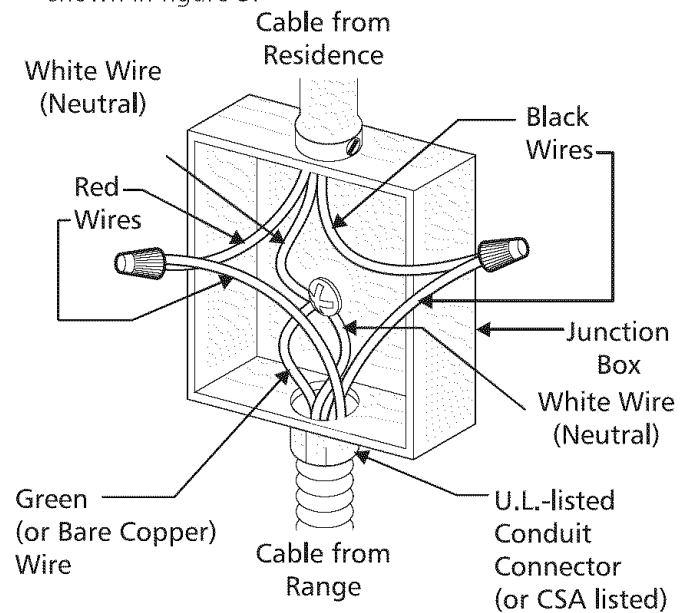

Figure 5
Where local codes permit connecting the appliance-grounding conductor to the neutral (white) wire (see Figure 5):
2. In the circuit breaker, fuse box or junction box: connect appliance and residence cable wires as shown in figure 5.